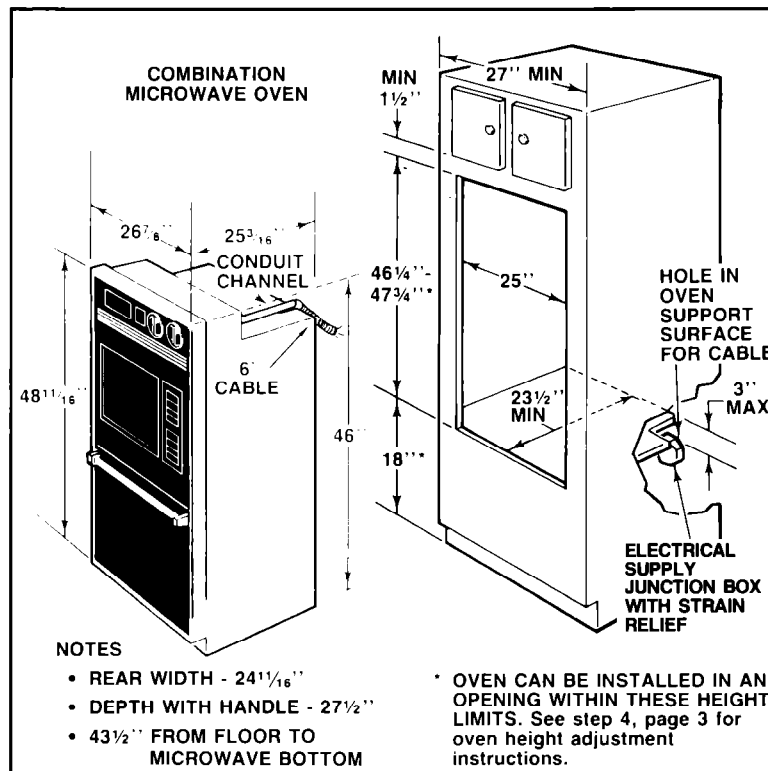

FIGURE 1
Refer to Figure 1 for the dimensions of the oven and the space necessary to receive the oven. The oven support surface may be solid plywood or similar material but the contact surface must be level from side to side and from front to rear.
B. The appliance should be connected to the fused disconnect (or circuit breaker) box through flexible armored or non-metallic sheathed cable. The flexible armored cable extending from the appliance should be connected directly to the junction box. The junction box should be located as shown in Figure 1 so as much slack as possible remains in the cable between the box and the appliance so it can be moved if servicing is ever necessary.